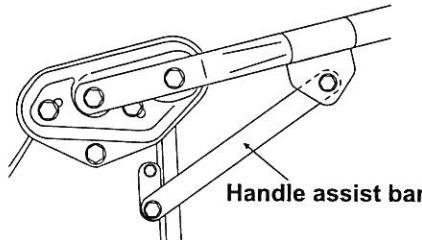

Fig. 11.
- 3 Remove the housing bolts and loosely fix the bar temporarily. (See Figs. 11.)